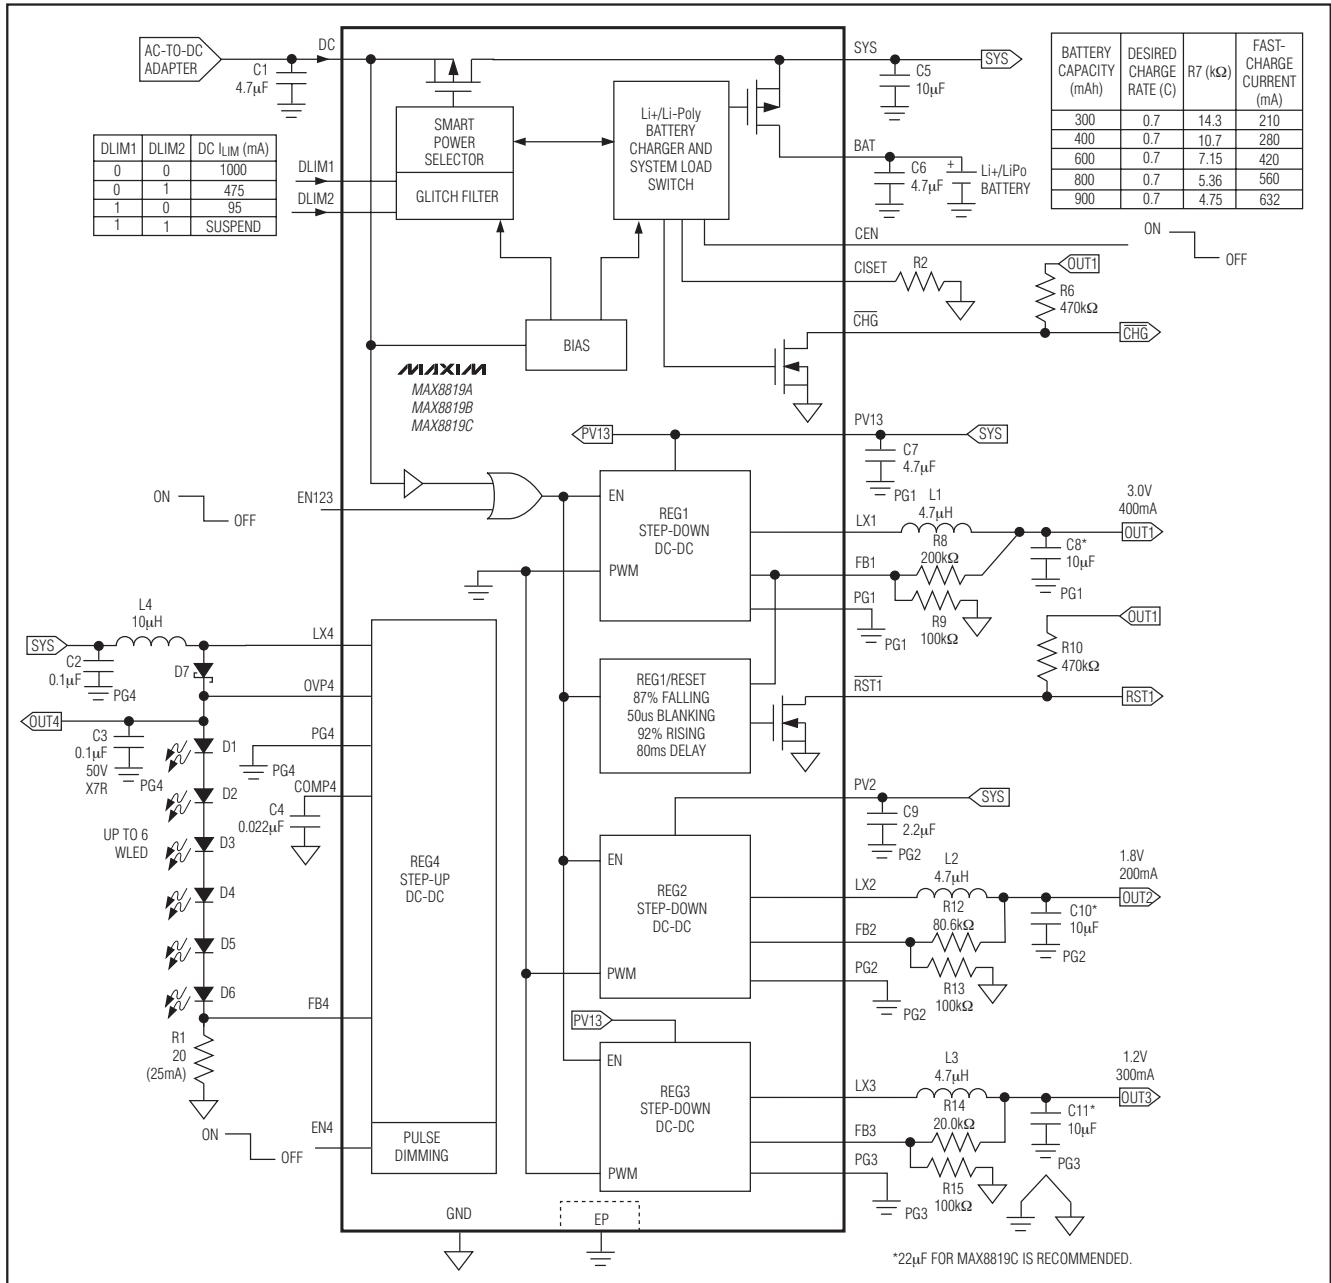

图1. 功能框图/典型应用电路
**Note 8:** The skip-mode current threshold is the transition point between fixed-frequency PWM operation and skip-mode operation. The specification is given in terms of output load current for inductor values shown in the typical application circuit (Figure 1).
(Circuit of Figure 1,  $T_A = +25^\circ\text{C}$ , unless otherwise noted.)
MAX8819\_是包括电池充电器、降压转换器以及WLED电源在内的完整的电源解决方案。如图1所示，该IC集成了直流电源输入、Li+/锂聚合物电池充电器、3路降压转换器和